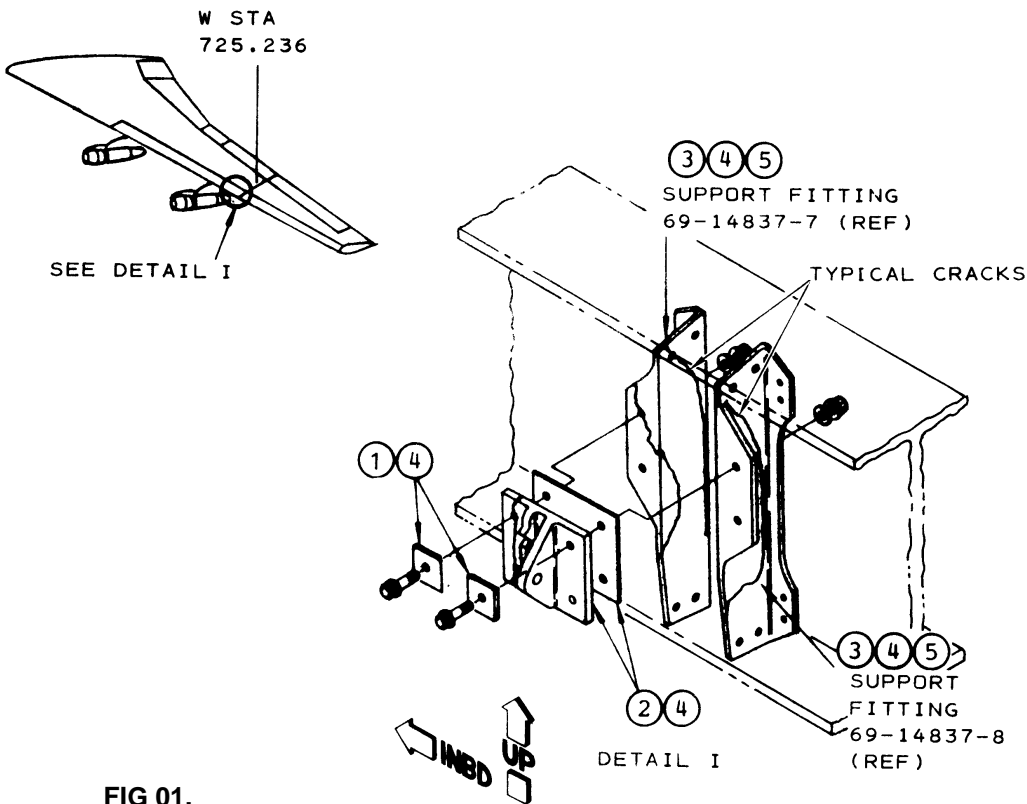

FIG 01.
4. Visually inspect support fitting for cracks per FIG. 01.